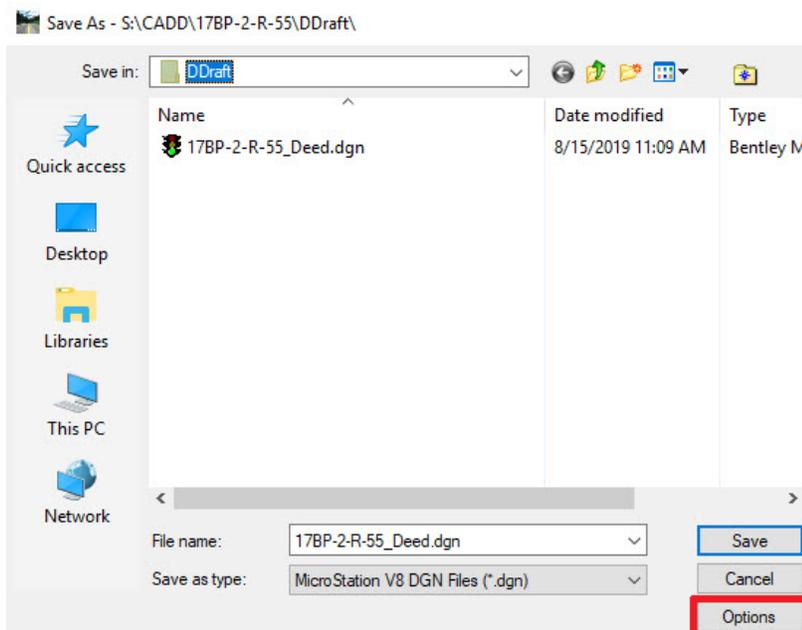

Figure 27 "Save As Options"
Step 2. Important – BEFORE you click SAVE, select *Options* in the SAVE AS dialog box. (Figure 27 below)